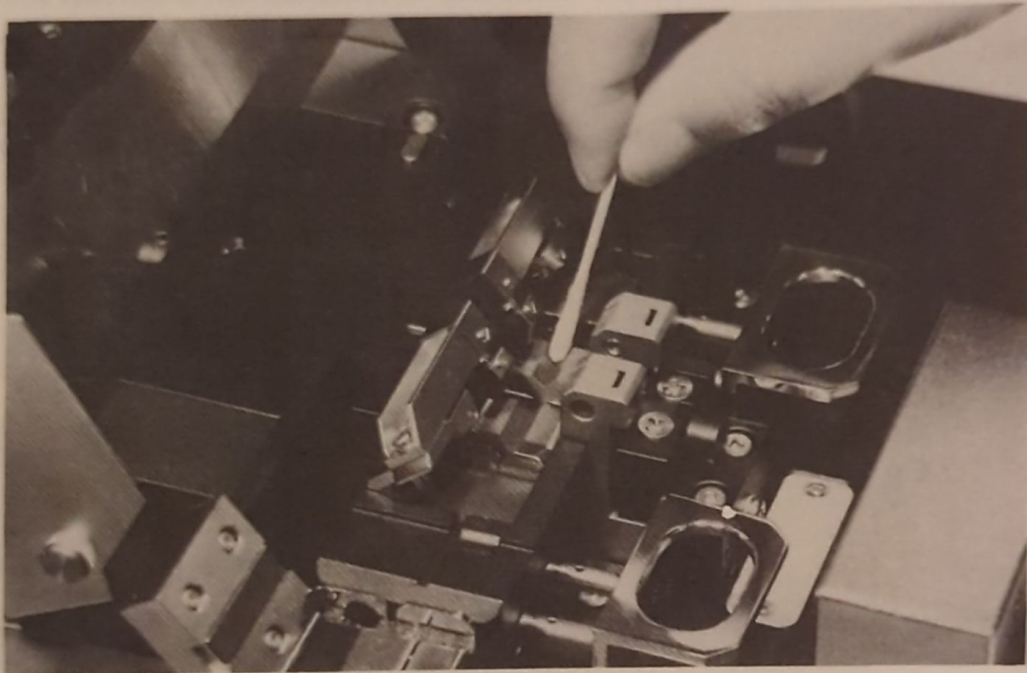
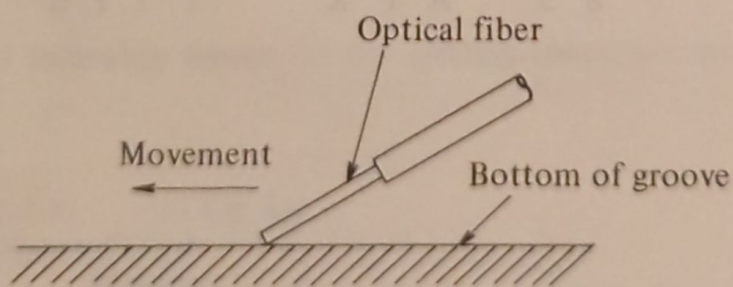

Fig. 29 Cleaning with Cotton Stick
Fig. 30 Cleaning with Optical Fiber
Please make sure that you have turned off the POWER switch ③①, since it is dangerous to clean the optical fiber guide unit when the power is on. After opening the clamp ①①, wipe the groove with a cotton stick dipped in alcohol (Refer to Fig. 29). Alternatively scour the groove with the end face of the cut optical fiber in the direction shown in Fig. 30. Discharge several times (caution (3) Sect. 5.1) without fail, after cleaning.